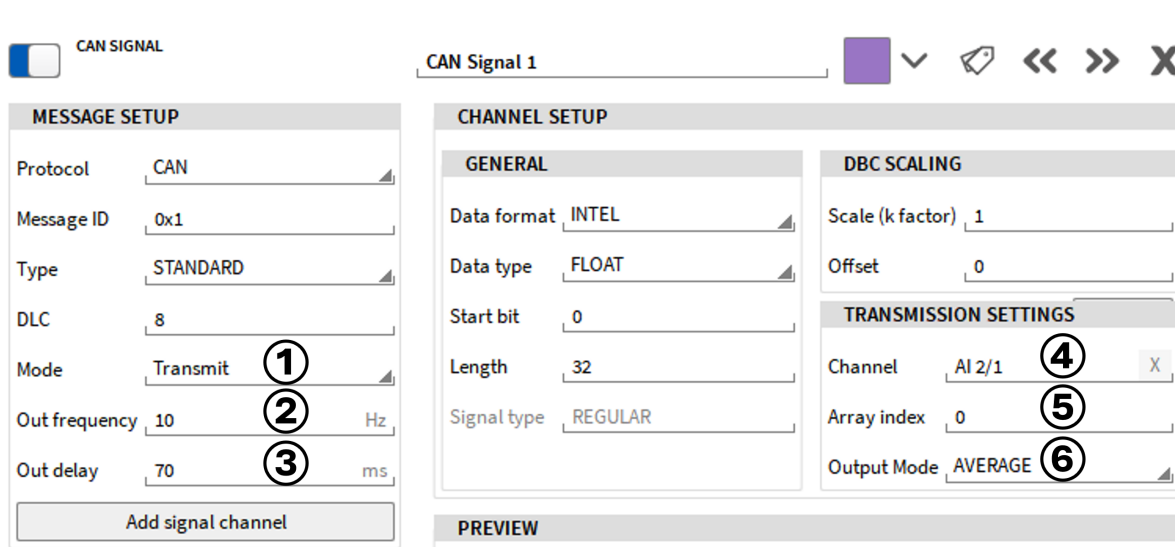
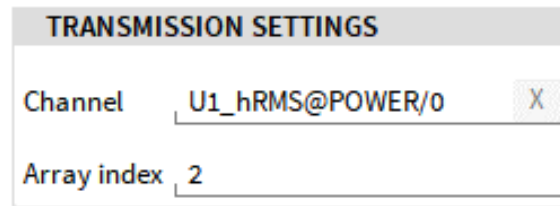

Fig. 7.211: CAN output settings
Fig. 7.212: Outputting arrays elements over CAN
It is possible to transmit OXYGEN channels cyclically over the CAN bus. This functionality is supported by all CAN ports available on the different TRION boards and also by the Vector VN series CAN ports. For transmitting CAN data, it is either possible to load a dedicated dbc file or to define the CAN messages and signals individually by using the CAN editor. To transmit OXYGEN data over CAN, the CAN message Mode must be set to Transmit (see ① in Fig. 7.211) for that.
The output rate can be defined from 0.1 ... 100 Hz (see ② in Fig. 7.211) individually for each message. The output delay can be set from 1 ... 500 ms (see ③ in Fig. 7.211). One dedicated OXYGEN scalar time domain channel (i.e. Analog or Digital input, power value such as Active power or another CAN channel) can be assigned to one CAN signal by dropping the channel or typing its name into the Channel section of Transmission settings (see ④ in Fig. 7.211).
It is also possible to output dedicated elements of an array channels (such as harmonics from a power group) over CAN. To do so drop the array channel in to the Channel section (see ④ in Fig. 7.211) of the Transmission Settings and enter the index of the array elements that shall be output in Array index (see ⑤ in Fig. 7.211). As an example: If the second harmonics of a voltage channel shall be output over CAN, type in the harmonics channel name in the Channel section, i.e. *U1\_hrms@POWER/0* and enter the index 1 in the Array index section (see Fig. 7.212).
The *Output Mode* (see ⑥ in Fig. 7.211) setting has two options, *AVERAGE* calculates the linear average over one output period and *LAST\_VALUE* outputs the last valid sample.
To tune the responsiveness and the signal quality of the transmitted data, we introduced the Out delay (see ③ in Fig. 7.211). This is the time, which the data is delayed before sent. The following graphs show the difference between two individual settings: